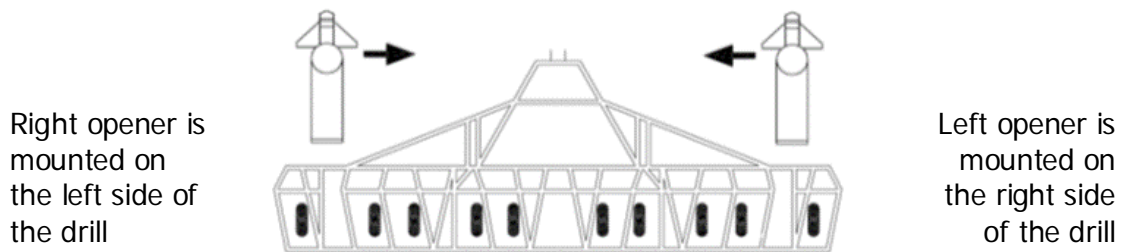

Figure 5: Opener orientation
Determine the orientation facing direction of travel. Facing the direction of travel, a left opener will install on the right side of the drill. In Figure 5, the arrows represent the orientation of the seed chute.
- 3) Carbide protected wings for side band and spread openers can be purchased through Atom-Jet to weld on to replace broken and worn-out wings. Remember the designation of left and right wings based on the side of the drill shown in Figure 5.